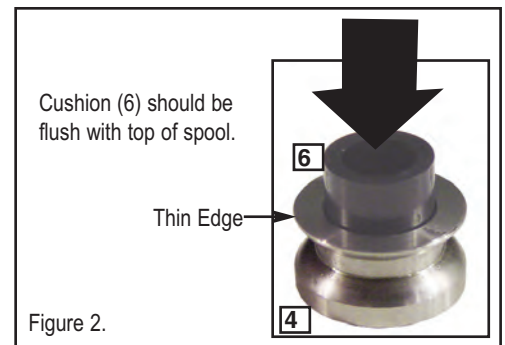

Figure 2.
**1.** Check that the Cushion (6) is preassembled into the Upper Spool as shown in **figure 2**.